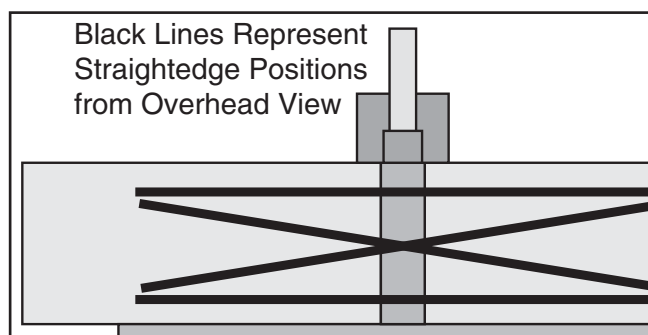

Figure 64. Straightedge positions for checking infeed/outfeed table parallelism.
4. Place the straightedge in the positions shown in **Figure 64**. In each position, the straightedge should sit flat against both the outfeed table and the infeed table.
7. Place the straightedge in one of the positions shown in **Figure 64**, and adjust the eccentric bushings under the infeed table so the straightedge lies flat against both tables. Repeat this step with each of the remaining straightedge positions as many times as necessary until the infeed table is parallel with the outfeed table.